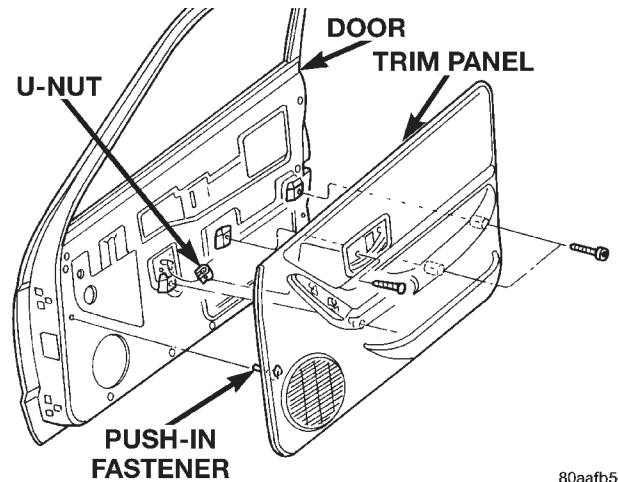

Fig. 5 Front Door Trim Panel Remove/Install
(1) Disconnect and isolate the battery negative cable.
(2) Remove the screws that secure the front door trim panel to the inner door panel (Fig. 5).
(3) Using a trim stick or another suitable wide flat-bladed tool, gently pry the front door trim panel away from the door around the perimeter to release the trim panel retainers.